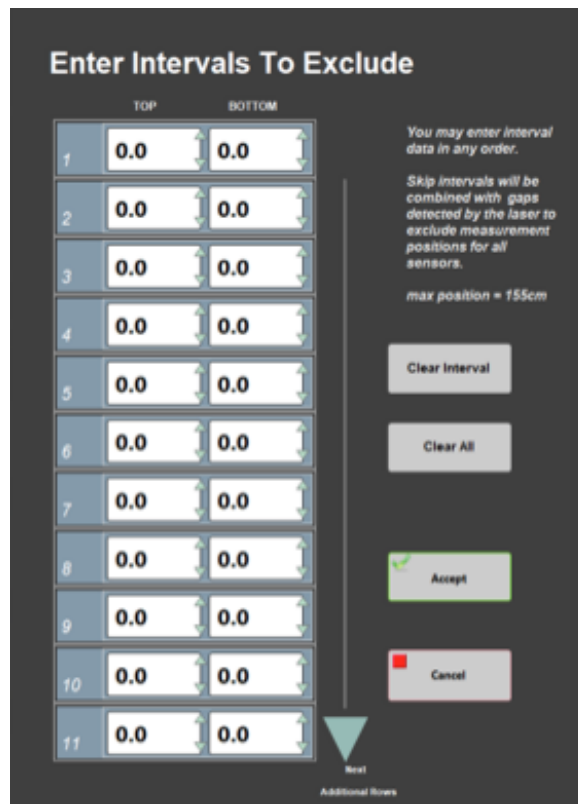

Figure 21. Exclude Intervals Window
- **Exclude Intervals:** Intervals can be specified for omission (Figure 16). Enter the top and bottom offsets of the areas to be excluded during the measurement pass as shown in Figure 21. The excluded intervals apply to all enabled sensors. A green indicator on the sample information entry window (Figure 16) will appear when intervals are set to be excluded.